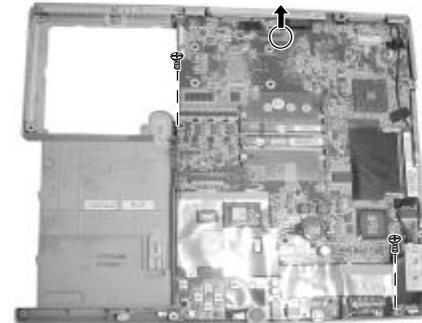

Figure 2-28 Unscrew two screws and disconnect one cord
7. Unscrew two screws and disconnect fan's cord. (Figure 2-28)